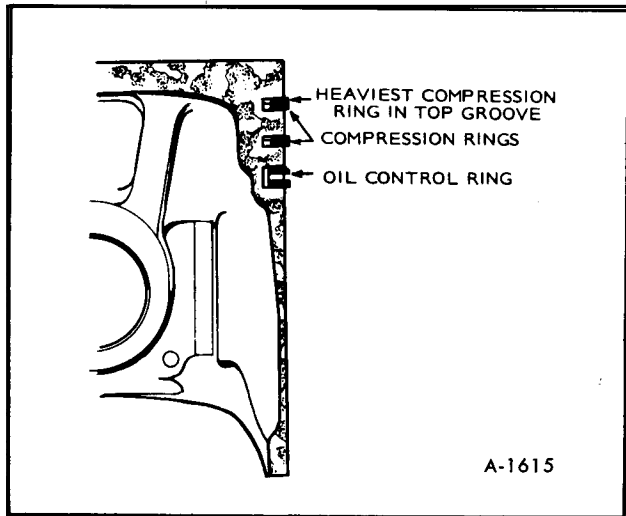

Figure 26—Piston Rings
3. Install the rings on the pistons starting with the oil control ring (figure 26). Use a piston ring spreader